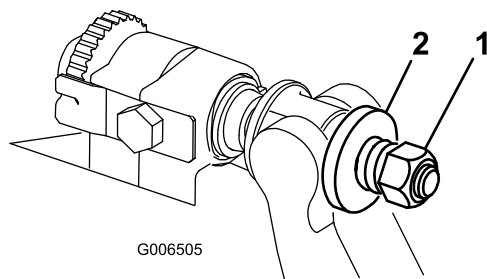

Figure 26
- Tighten spring tension nut until spring is collapsed, then back off 1/2 turn (Figure 26).